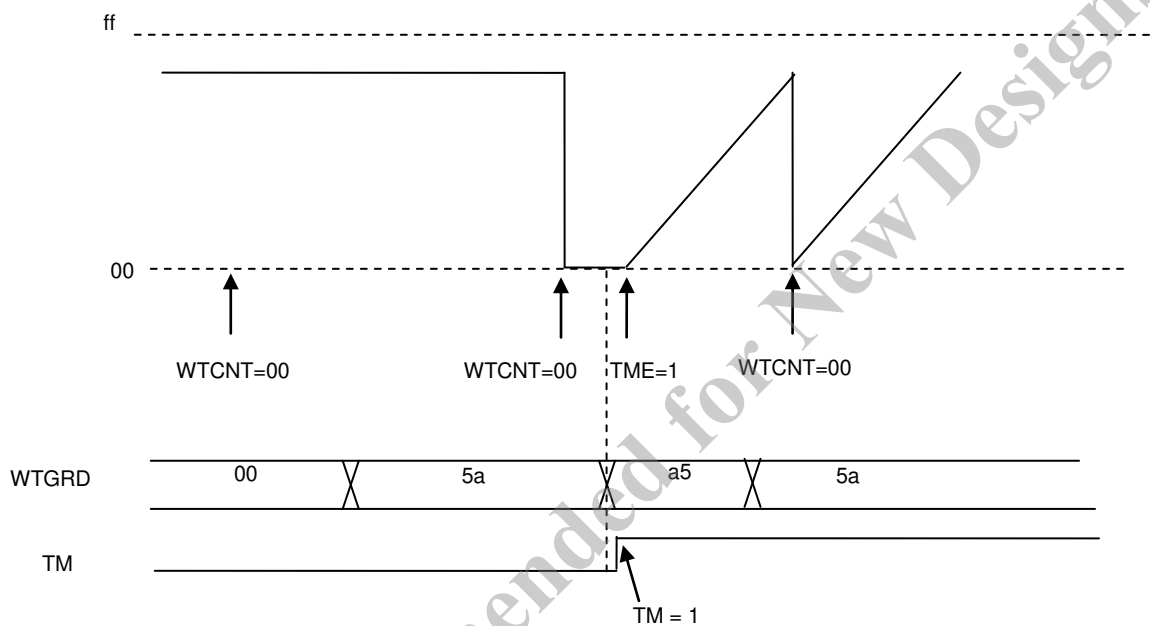

Figure 15-6 How to write into WTCNT and WTCSR
- If 0x5A is written into WTGRD, it is able to be written value into WTCNT. In Figure 15-6, 0x00 is written into WTCNT.
- If 0xA5 is written into WTGRD, it is able to be written value into WTCSR. In Figure 15-6, WTCNT.TM is written to 1 and WTCNT.TME is written to 1.